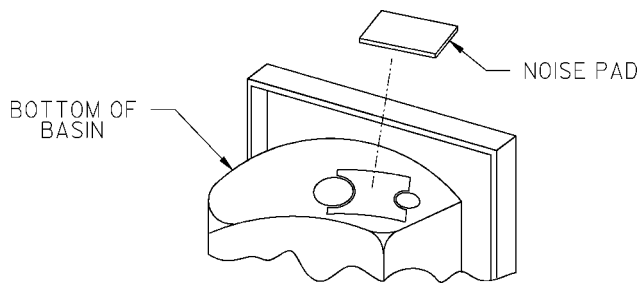

FIG. 3
2. Remove noise pad from paper and locate on bottom back of the basin between the drain and the bubbler holes (See Fig. 3).